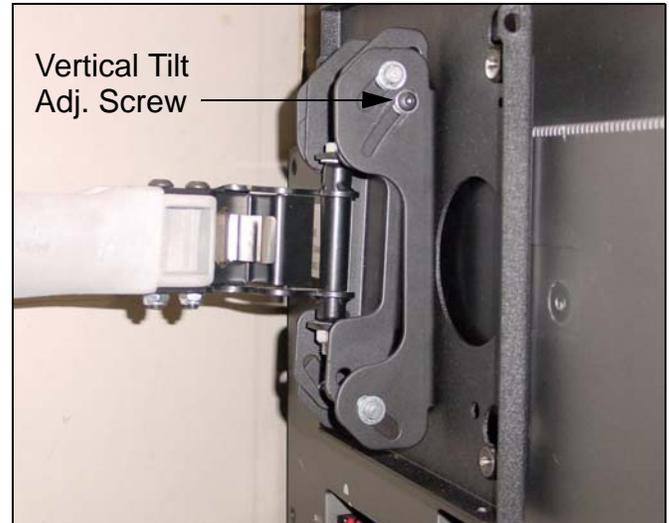

Figure 13: Vertical Tilt
1. Using 5/32" Allen wrench, slightly tighten or loosen two screws, one on each side, equally (See Figure 13:).